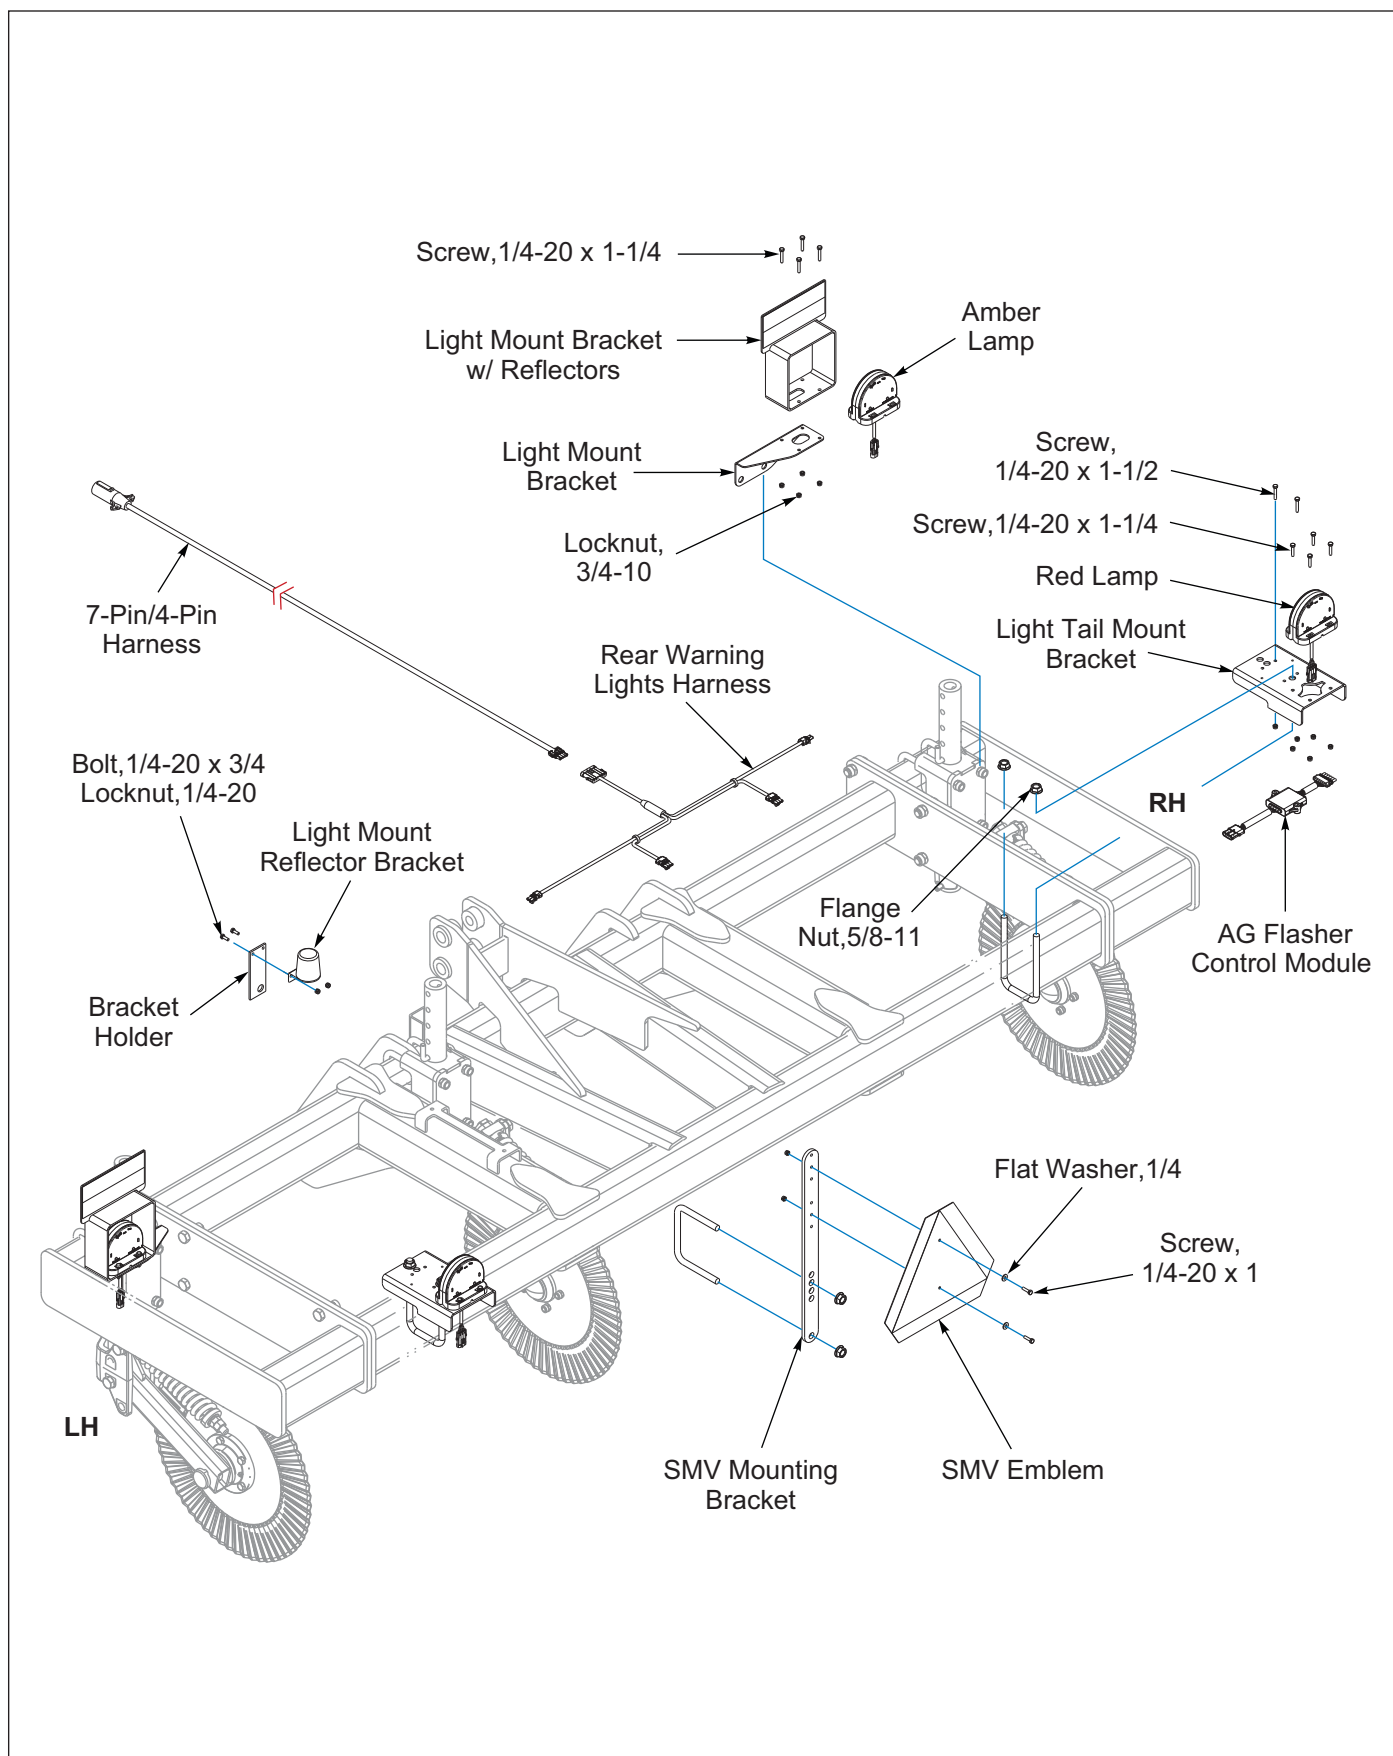

Figure 3-4: Warning Lamps and SMV Bracket Installation - 5 Shanks
1. Attach left and right Amber Light Mount Brackets to the existing bolt in Coulter Clamp Plate. *See Figure 3-4.*